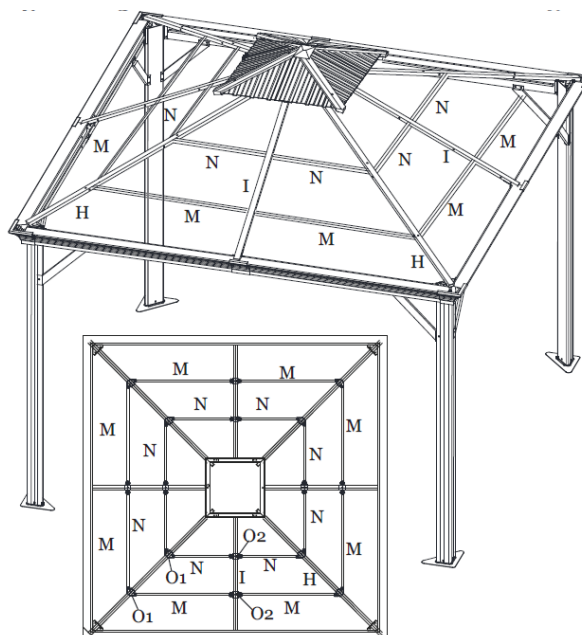

Figure 11-5
Step 11E: Repeat for all sides. **Tighten all Bolts.** See Figure 11-5.